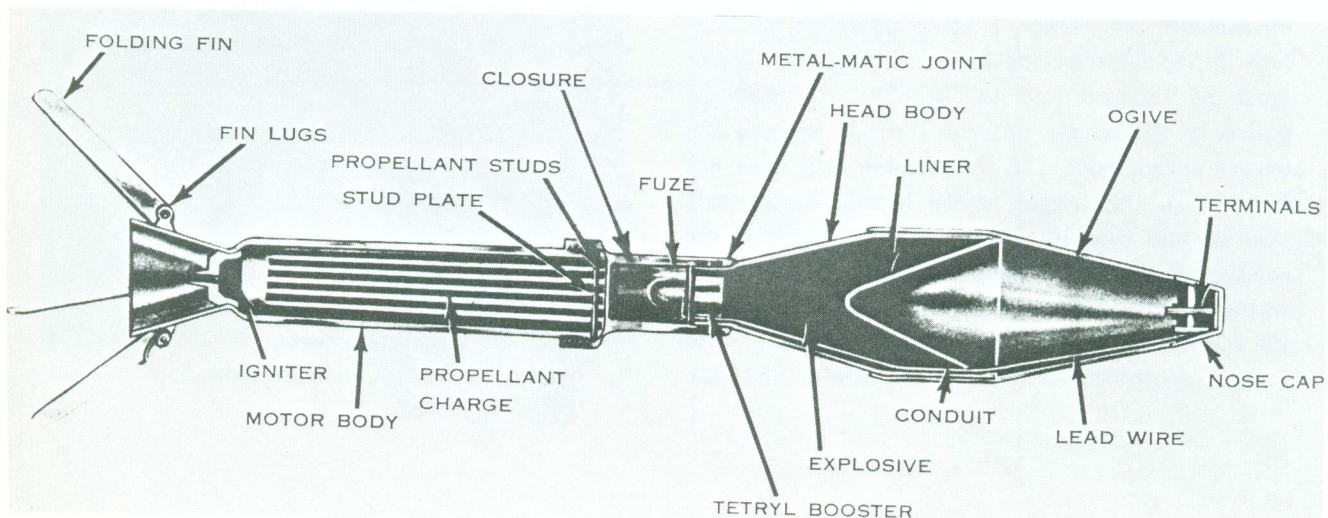

Figure 10. The 66-mm HEAT rocket.
Ammunition for the M72 is issued as a complete rocket (fig. 10). The propelling charge is not adjustable and the rocket comes packed in the launcher as a unit. The rocket consists of a rocket head, a fuze, and a rocket motor which contains the propellant and its igniter. A nozzle and a fin assembly are rigidly attached to the rear of the motor. The fuze closure serves also as the coupling for the rocket head and motor. Ammunition for the M72 is classified according to the type rocket head and is designated high explosive antitank (HEAT). Each rocket is 20 inches long, weighs approximately  $2\frac{1}{4}$  pounds, has a muzzle velocity of about 475 feet per second, and has an approximate maximum range of 1,000 meters.
*a. High Explosive Antitank (HEAT) Rocket.* The 66-mm HEAT warhead M18 (fig. 10) consists of a tapered, thin-gauge steel body. It is cylindrically shaped and contains a shaped charge composed of two-thirds of a pound of octol explosive held in place by a thin copper cone. When detonated, the force
*a. Nose Cap Assembly.* The nose cap assembly (fig. 10) contains the piezo-electric element which is crushed on impact with the target. When the
*e. Fin Assembly.* Six holding fin attachment lugs are attached as an integral part of the motor. These fins are actuated by springs. As the rocket clears the launcher, the fins spring out and stabilize the rocket in flight (fig. 10).